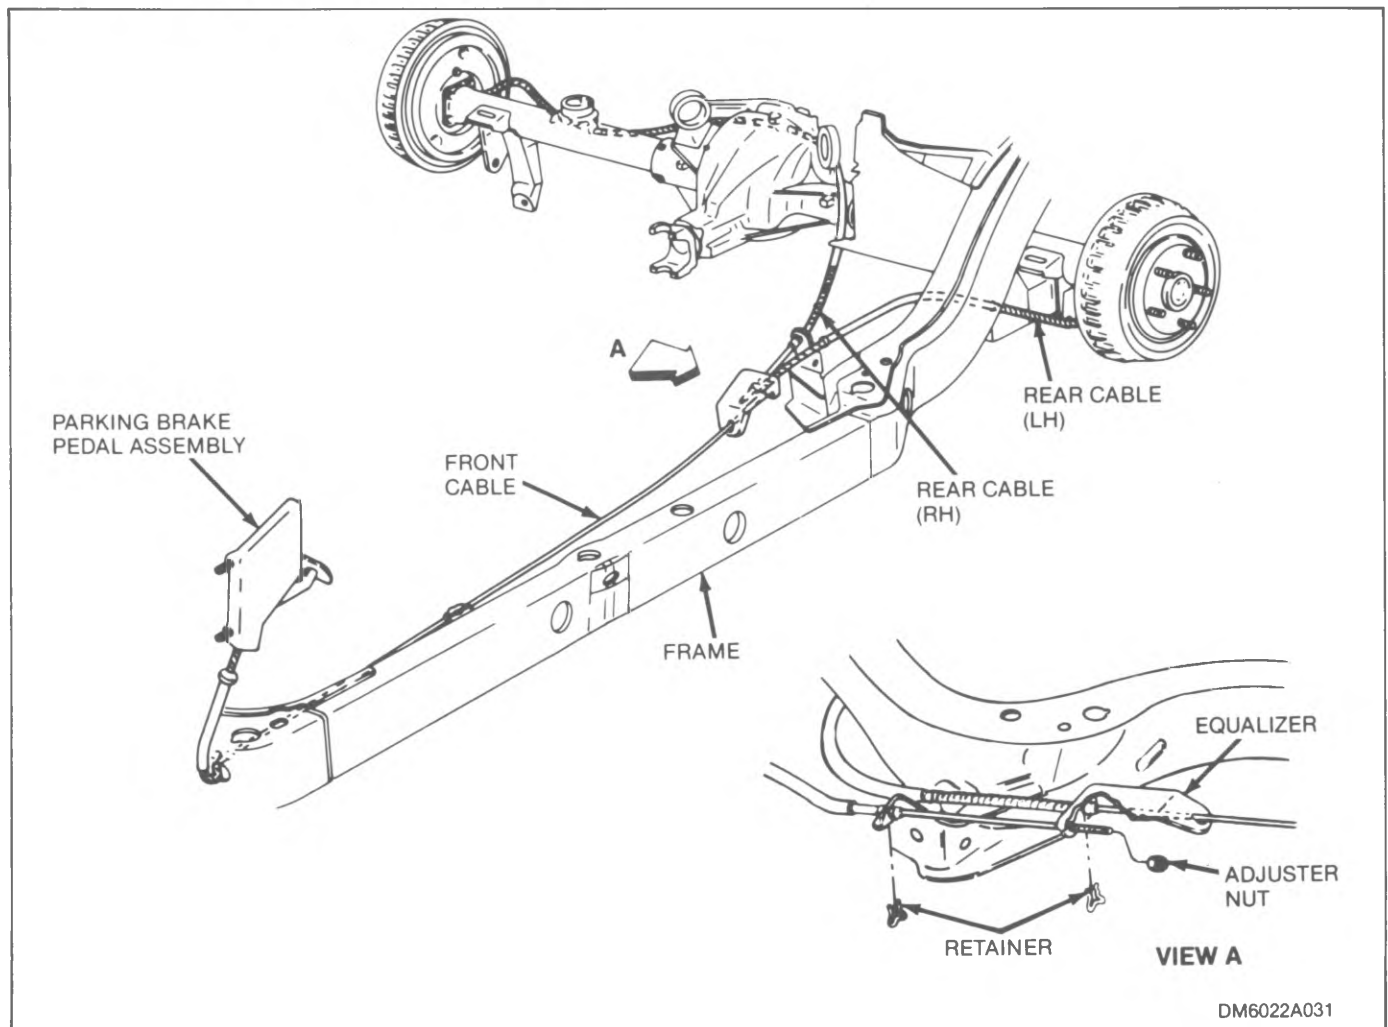
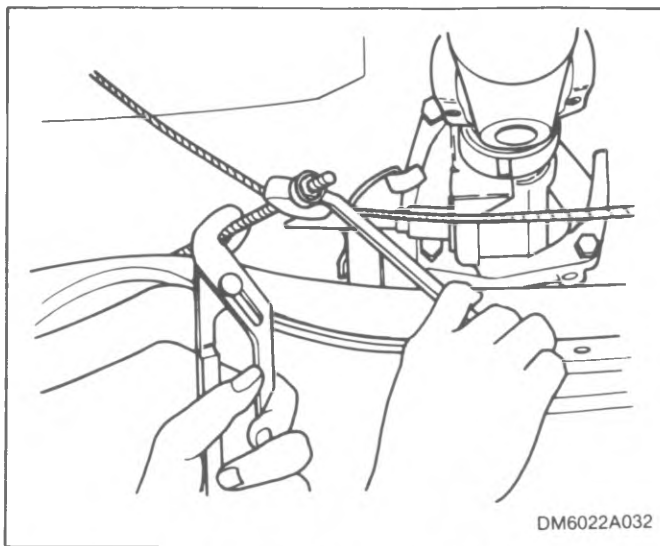

Figure 3-10. Typical Parking Brake System With Right Rear Cable Entry
Figure 3-11. Typical Parking Brake Adjustment
3. Another arrangement will be found on some 1977 and later vehicles (see figure 3-10). On these models, the front cable goes from the parking brake pedal assembly, along the left side of the vehicle, through the equalizer to which it is attached. This same cable continues on as the LH rear cable and enters the front of the left rear brake assembly. The cable for the right rear brake is connected to the equalizer and routed around the rear axle to enter the brake assembly from the rear.
4. Adjustment of all types is basically the same. By tightening or loosening the equalizer nut, or alternately loosening and tightening the check nuts on either side of the equalizer, it can be moved forward or back to produce the proper tension on the brake cables. It may be necessary to hold the front cable to prevent it from turning (see figure 3-11). For vehicles with the system shown in figure 3-10, adjustment is made by turning the adjusting nut at the equalizer.